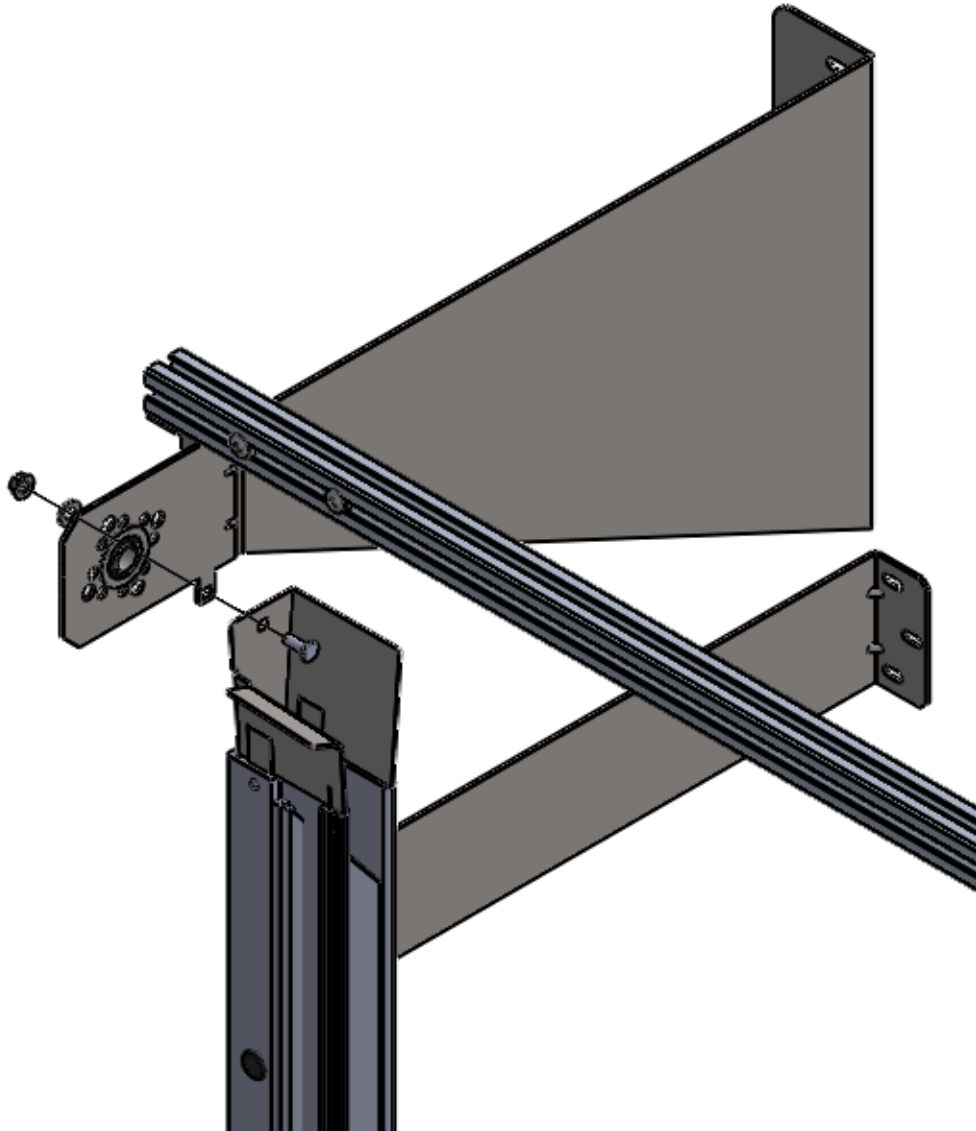

Figure 9 MOUNT TRACK TO HEADER
2. Remove the nut and washer leaving the carriage bolt in place. From the inside of the Header Mounting Bracket, loosely “hang” the track assembly, by the carriage bolt, through the square hole of both brackets. (Figure 9 MOUNT TRACK TO HEADER)
3. Re-install the washer and nut onto the carriage bolt loosely mating the two brackets. Note that the Transition Bracket of the Track Assembly should be inside of the Header Bracket tab. (Figure 9 MOUNT TRACK TO HEADER)